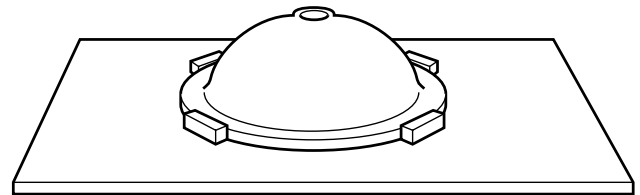

Figure 29
- Position the bowl on the sheet between the stop blocks (see Figure 29).